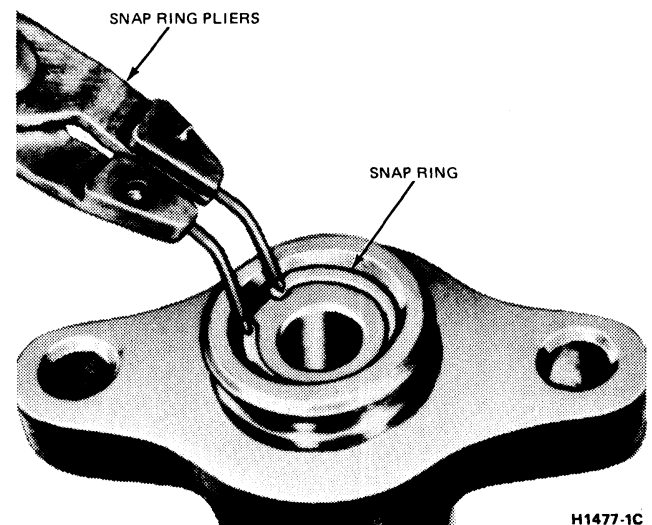

FIG. 22 Removing Snap Ring—Typical
3. Remove the snap ring (Fig. 22) holding the pistons in the cylinder body.